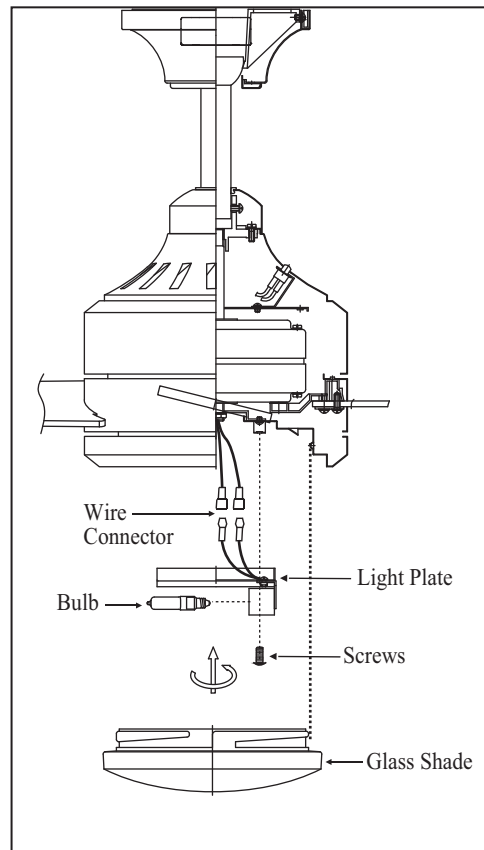

Figure 24
2. Carefully push all wires back into the mounting plate, then install the light plate onto the mounting plate with 3 screws provided. Be sure to tighten all screws. (Fig. 24)
4. Raise glass shade up against the light plate and secure it to fan by twisting glass clockwise until snug. DO NOT OVERTIGHTEN. (Fig. 24)